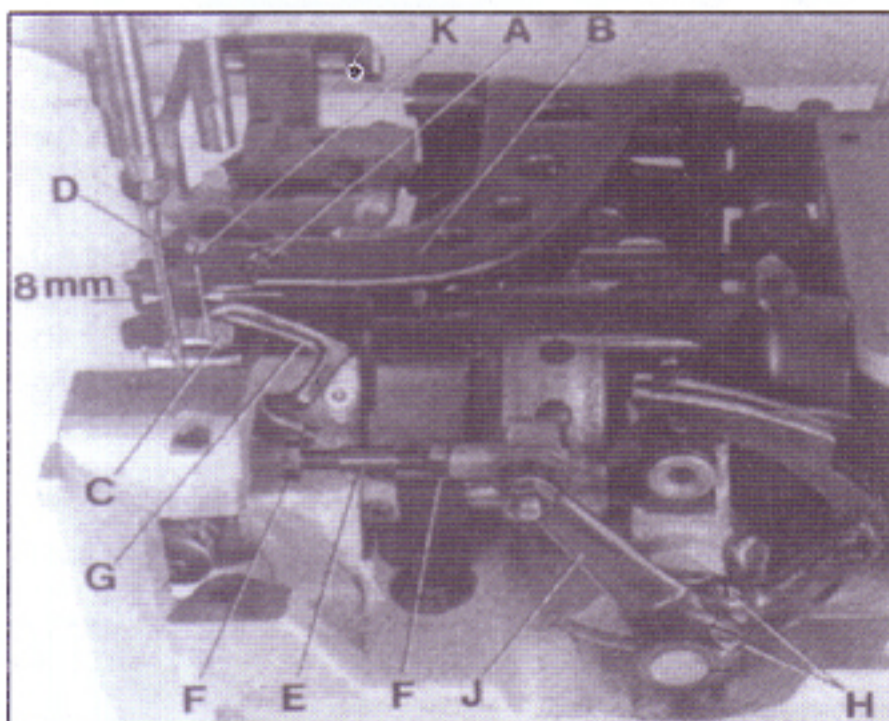
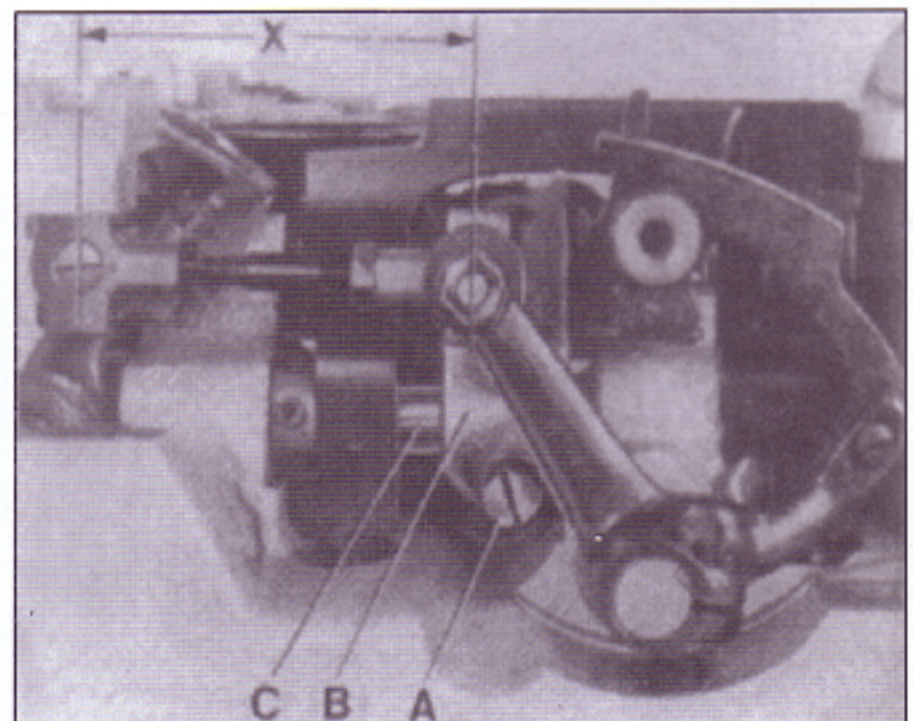

Fig. 2
Fig. 3
Remove the feed roller, throat plate and feed dog and also the needle guard for convenient access to the machine. On styles 81200S and SM, loosen the screw (A, Fig. 2) in the feed bar (B) and push the feed bar needle guard (C) to the rear to avoid its contacting the needle (D).
For the styles 81200S/SM, set the looper connecting rod (E) so the distance (X, Fig. 3) between the center lines of the two ball joints is 69.8mm (2 3/4"). The
dimension (X, Fig. 3) should be 68.3mm (2 11/16) on the single thread chain stitch style 80800D. For adjustment loosen the two nuts (F, Fig. 2) and turn connecting rod (E) forward or backward as required to obtain specified dimension, retighten nuts (F).
**NOTE** The left nut has a left hand thread. Set the looper (G) so the distance from the center line of the needle (D) to the looper (G) is 8mm (5/16") when the looper is at its farthest position to the right. Looper gauge No. 21225 5/16 can be used advantageously in making this adjustment. For adjustment, loosen screws (H) in the looper drive lever (J), reposition as required to obtain specified dimension and retighten screws (H) assuring that all end play is taken out of the looper drive lever rocker shaft. Check to insure a clearance of approx. 1 mm (.040") between the point of the looper and the bed end cover when the looper is at its extreme left position. Should the looper strike the bed end cover, recheck the distance between center lines of ball joints and the looper gauge distance as described above.
Rotate the machine pulley in operating direction so that the looper moves from right to left. The looper point should pass as close as possible to the back of the needle without contacting 0.08 to 0.13 mm (.003 to .005") clearance. For adjustment loosen screws (A, Fig. 3) in the looper eccentric fork (B) and turn looper rocker shaft (C) on the looper rocker forward or backward as required. Retighten screw (A).
At highest point of feed dog travel, the feed dog (B, Fig. 5) should be set so, that the rear teeth project their full depth above the throat plate surface. For setting remove the feed dog and adjust the supporting screw (K, Fig. 2) on the top of the feed bar to the required height. Remount the feed dog, and on styles 80800H and HA also the needle guard.
The needle guard (C, Fig. 2) has to be set so, that it just contacts the needle at its most forward point of travel, without deflecting it.
On styles 81200S/SM loosen screw (A, Fig. 2) in the feed bar (B) and adjust the needle guard (C) accordingly. Retighten screw (A).